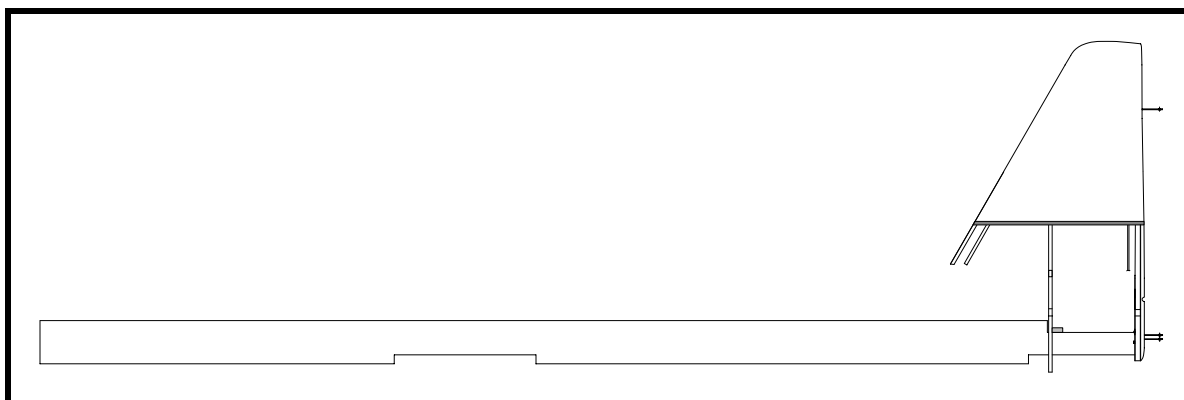

Figure 5
- ☐ Trial fit the fin assembly on the end of the fuselage jig. See Figure 5. You will have to shape the top of the jig to fit inside the forward fin spar, and you will have to cut notches in the end of the jig for the channel-nuts for the lower fin hinges.